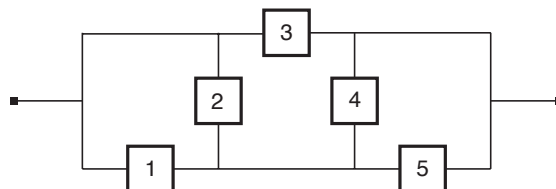

Figure 5.1: Reliability block diagram, Problem 1.
Problem 1. Consider the system represented by the reliability block diagram in Figure 5.1.
- Find the minimal cut sets of the system in Figure 5.1.
(b) Find the structure function of the system in Figure 5.1.